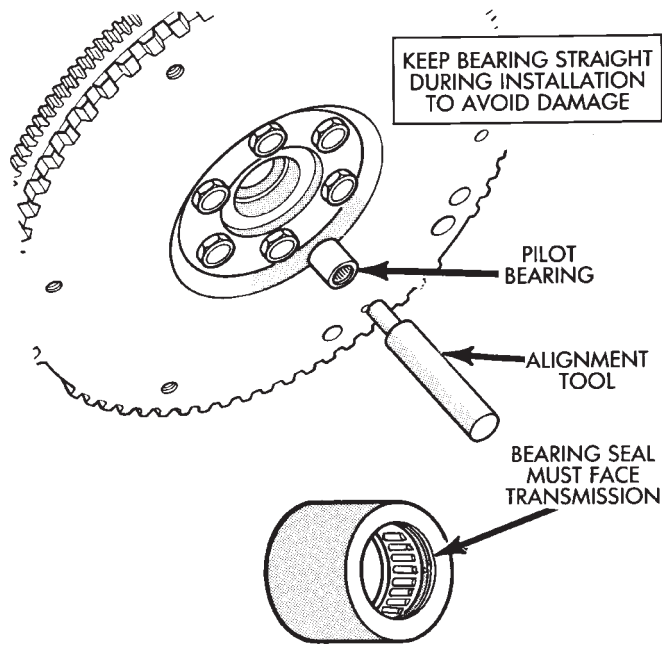

Fig. 5 Typical Method Of Installing Pilot Bearing
- (1) Clean bearing bore with solvent and wipe dry with shop towel.
- (2) Lubricate new pilot bearing with Mopar® high temperature grease.
- (3) Position and start new bearing in bearing bore by hand. Note that pilot bearing has seal at one end. Install bearing so seal is facing outward toward transmission.
- (4) Seat pilot bearing with clutch alignment tool (Fig. 5). Keep bearing straight during installation. Do not allow bearing to become cocked. Tap bearing into place until flush with edge of bearing bore. Do not recess bearing.